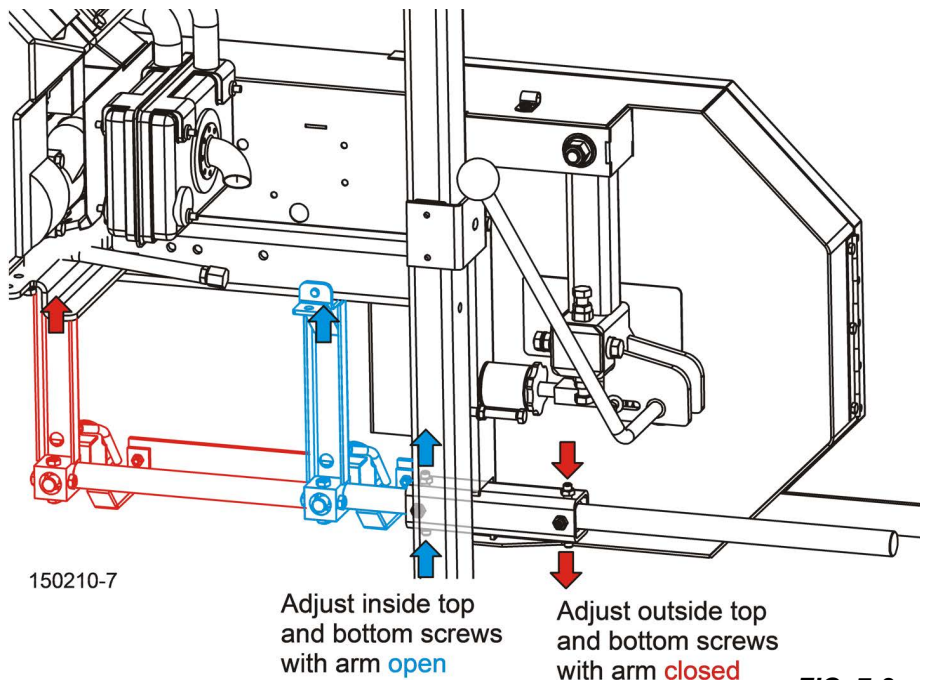

FIG. 7-2
1. Adjust the blade guide arm out to $\frac{1}{2}$ " (13 mm) from fully open. See FIG. 7-2.